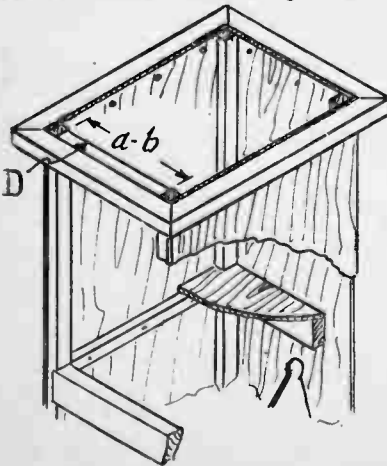

Fig. 2—Details of construction
For the top, make up a frame of $\frac{1}{2}$ in. square wood, as can be seen in the detail of construction, Fig. 2. This should be mitred at
Nail these bars across, using oval nails as the kind that can be more easily punched down afterwards. Now cut from the plywood a panel for the floor of the cabinet, its size being the distance between the plywood sides, and the full depth of the carcase, measured across crossbars (B). Cut out the corners to clear the side vertical strips, then nail it both to strips (B) and (C). The back of the cabinet, also of plywood, is cut to fit between the sides and long enough to reach from the top to bottom of the cabinet. It is nailed to the inner edge of the top frame, side strips and also to (B), as shown in Fig. 2, its lower part shaped up as at Fig. 1. Cut a strip of deal, say, $\frac{1}{2}$ in. thick, and long enough to reach across the side strips. It is 1 in. wide, and is glued and nailed to the inside edge of the top frame, at (D) in Fig. 2. It should project below this frame just $\frac{1}{8}$ in. as seen in the detail